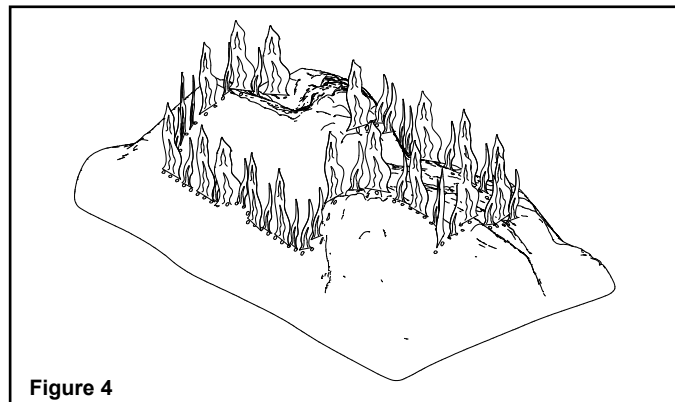

Figure 4
19. Turn on fireplace to check for proper burner flame pattern. See Figure 4.